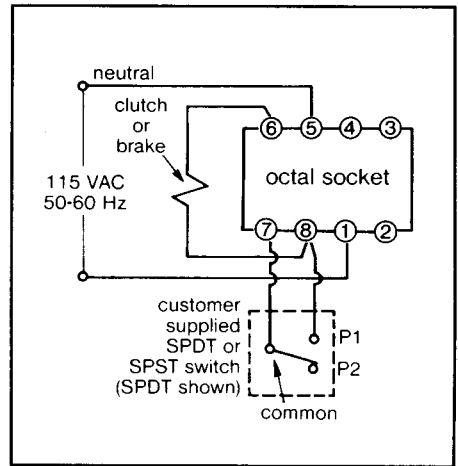

Figure 2: Wiring diagram for PR-01 rectifier with 1 unit.
Connection instruction: (See Figure 2)
3. Connect switch to terminals 7 and 8; the switch common should be connected to terminal 7. Use a maintained contact type SPDT (shown in Figure 2) or single-pole, single-throw (SPST) switch. See *Accessory Requirements* Section of this manual for switch specifications.